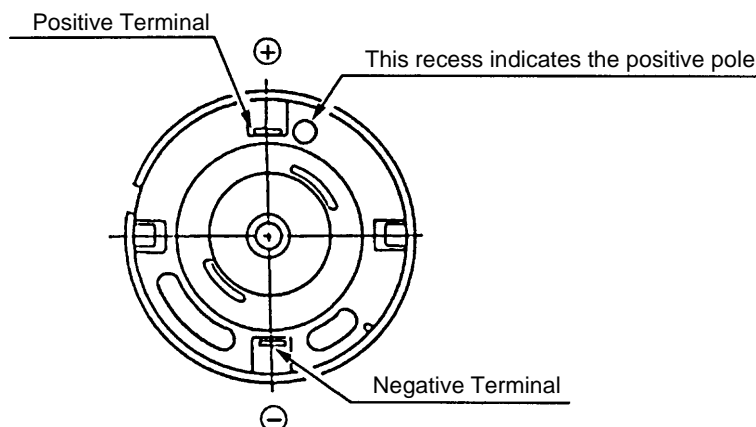

Fig. 5
- (6) When soldering the Internal Wires (B) **[9]** **[9]** (Red) and **[10]** **[10]** (Black) onto the Motor **[8]** **[8]**, be very careful to ensure correct Motor polarity. As illustrated in Fig. 5, there is a circular recessed mark close to the terminal which indicates the positive pole.